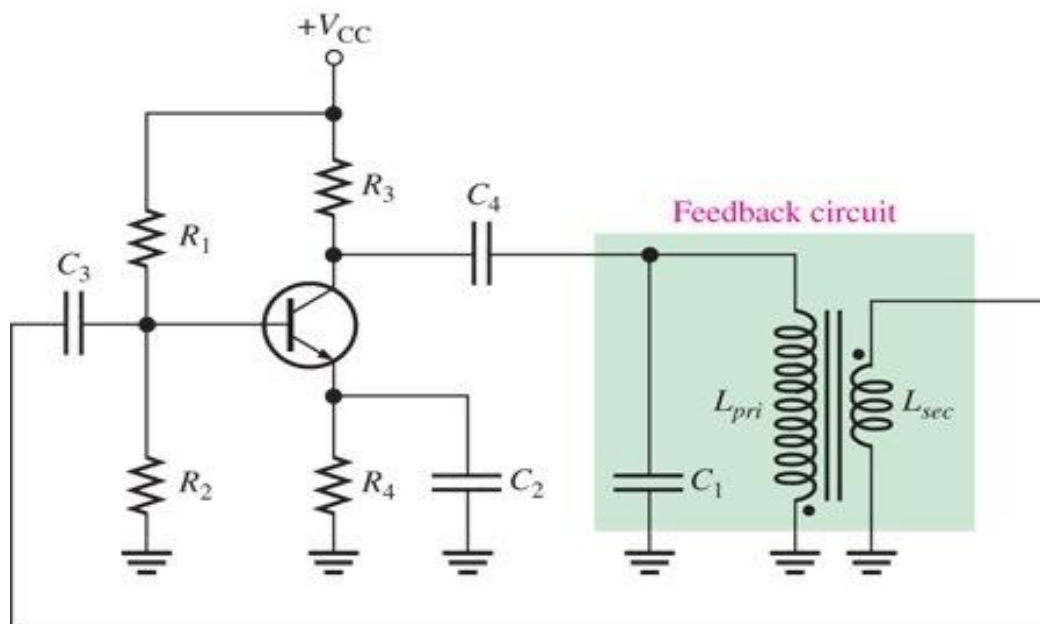

Figure 21 A basic Armstrong oscillator.
- This type of LC feedback oscillator uses transformer coupling to feed back a portion of the signal voltage, as shown in Figure 21.